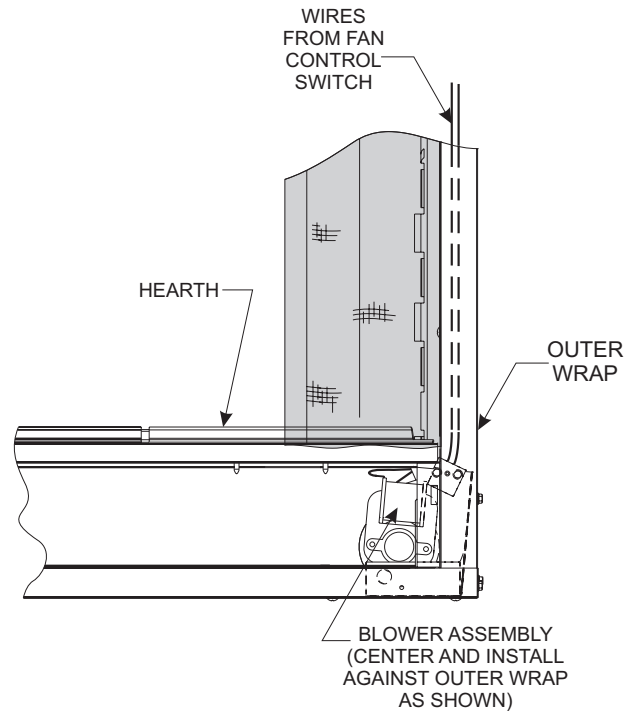

Figure 26
4. Insert blower assembly into interior, bottom of firebox. **NOTICE:** On peninsula models, the blower must be installed at the end which has the brick panel installed. Position blower assembly so that you align the notch on back of blower assembly with the center screw on side/end panel, then push the blower assembly against firebox outer panel. The blower wheel must be centered with the side/end wall of the firebox. The magnets on the back and bottom of blower assembly will sufficiently hold blower assembly in place. **See Figure 26.**
8. To complete the installation, plug the power cord into the junction box receptacle previously installed in the bottom of the fireplace. **See Figure 26.**